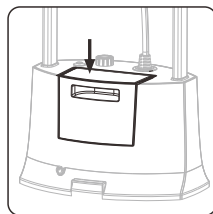

Figure12
3..Place the tank back into the host, the water will automatically flow into the heater. (Figure 12)